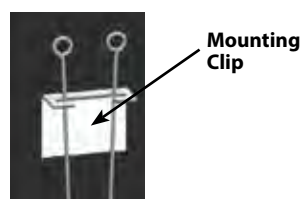

Fig.4
4. Squeeze the **Torsion Springs** into **Mounting Clips** of the **Existing Housing**. (Fig.4)